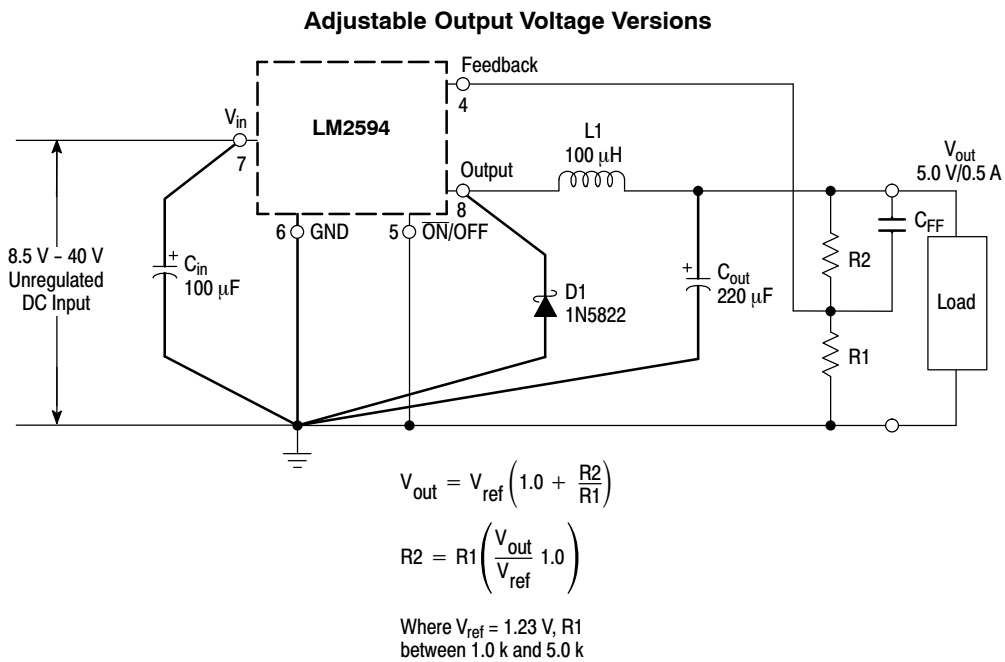

Figure 16. Typical Test Circuit
LM2594 (Note 1, Test Circuit Figure 16)
- External components such as the catch diode, inductor, input and output capacitors can affect switching regulator system performance. When the LM2594 is used as shown in the Figure 16 test circuit, system performance will be as shown in system parameters section.
TYPICAL PERFORMANCE CHARACTERISTICS (Circuit of Figure 16)
As in any switching regulator, the layout of the printed circuit board is very important. Rapidly switching currents associated with wiring inductance, stray capacitance and parasitic inductance of the printed circuit board traces can generate voltage transients which can generate electromagnetic interferences (EMI) and affect the desired operation. As indicated in the Figure 16, to minimize inductance and ground loops, the length of the leads indicated by heavy lines should be kept as short as possible.